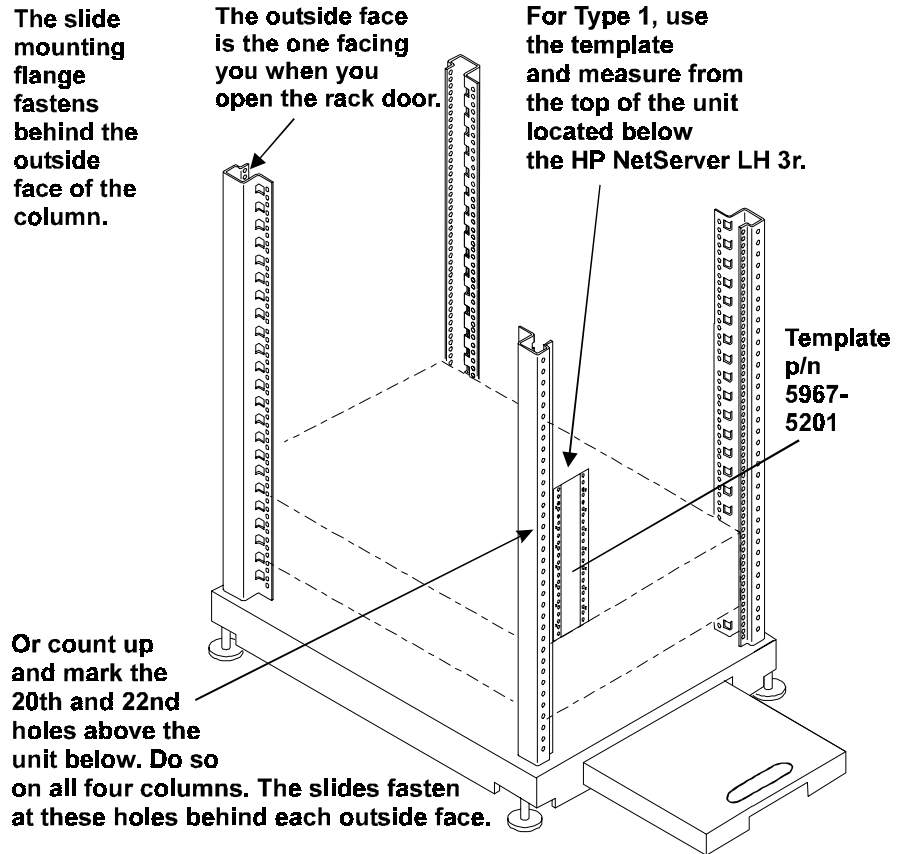
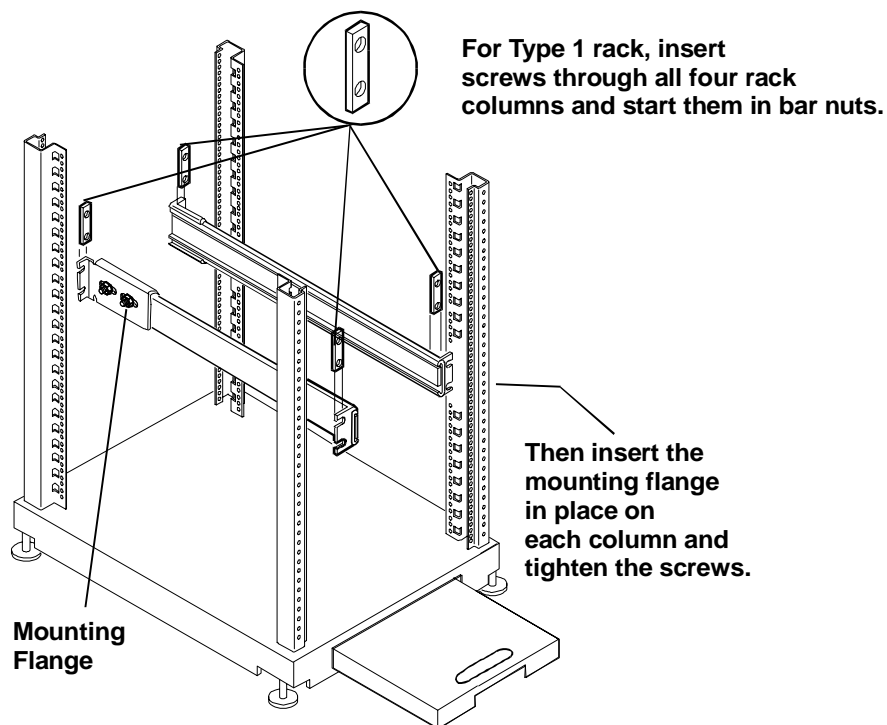
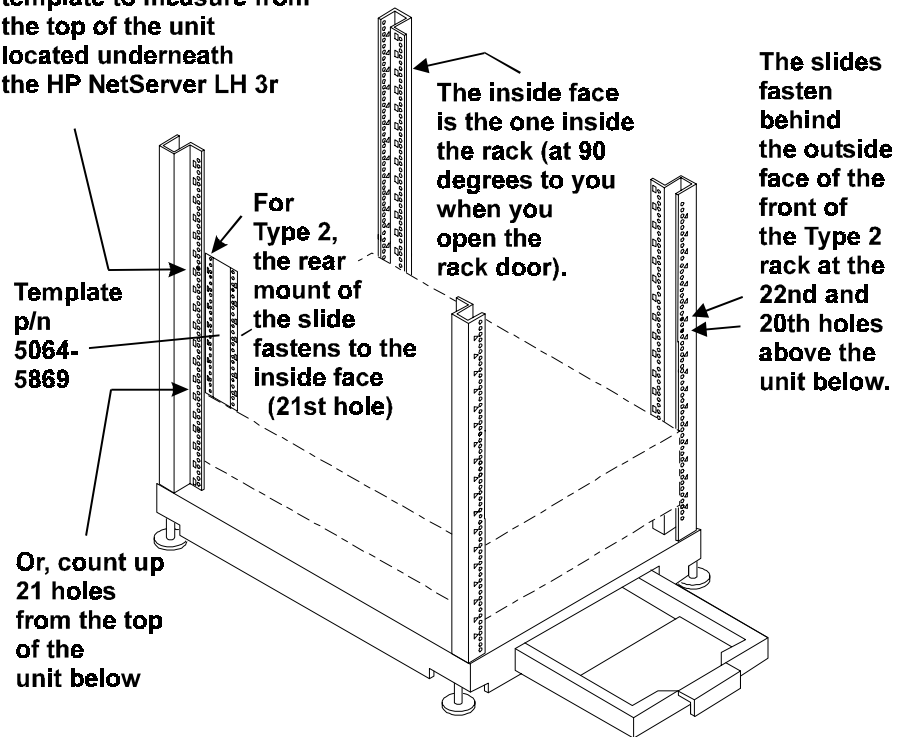
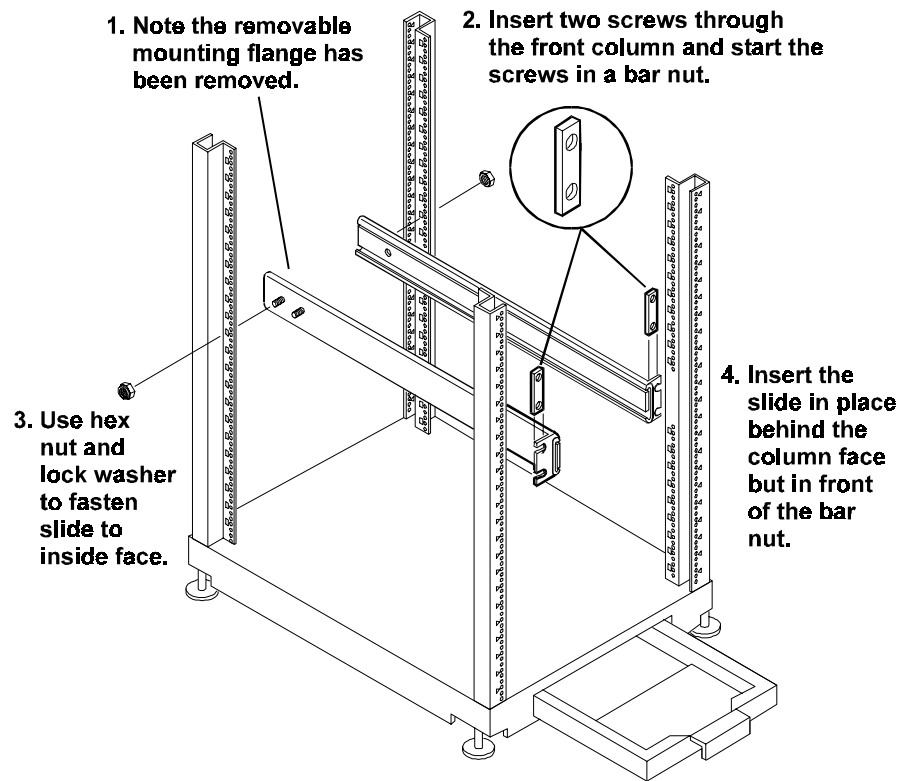

Figure 8-7. Locating the Slides for the Type 1 Rack
Figure 8-8. Orientation and Fastening of Type 1 Slides
Figure 8-9. Location of Slides for Type 2
Figure 8-10. Orientation and Fastening of Type 2 Slides
- ◇ When marking, use tape or a marker pen to show the correct holes on each column. (Either Figure 8-7 or Figure 8-9 can be used to determine which holes are correct.) Do not place rack nuts in the holes, only mark them. Screws will be inserted through these holes into bar nuts to secure the mounting flange on the slide to the rack column.
2a. To mount the slides in a Type 1 rack, follow the instructions titled "Type 1--Locating the Slides" (see Figure 8-7), and "Type 1--Mounting the Slides" (see Figure 8-8).
2b. To mount the slides in a Type 2 rack, follow the instructions titled "Type 2--Locating the Slides" (see Figure 8-9), and "Type 2--Mounting the Slides" (see Figure 8-10).
For Type 1, see Figure 8-7. All four mounting brackets on the slides attach behind the outside faces of the columns. Use the template (or if you no longer have it, count) and mark the 20th and 22nd holes on the outside faces of each column. These holes correspond to the bottom hole of the eighth EIA unit (and the middle hole of the 7th EIA unit) above the unit under the server.
- ◇ Then line up the front and rear mounting flanges of the slide with the screws started in the bar nuts. Press the slide firmly against the rack column. See Figure 8-8.
For Type 2, see Figure 8-9. The two front mounting brackets attach behind the outside faces of the front columns. The rear attachments for the slides in this case attach by means of a threaded stud and hex nut to the inside faces of the rear columns. Locate the hole for this stud using the template or by counting up 21 holes from the unit below.
- ◇ Insert the threaded stud on the rear of the slide through the inside face on the rear column of the rack. Fasten it in place using the lock washer and hex nut that held the mounting flanges in place. See Figure 8-10.